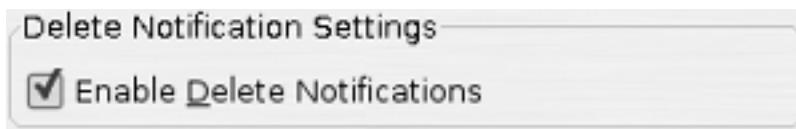

Figure 11.8. Delete Notification Settings
2. Under the "Delete Notification Settings" section unckeck the checkbox labeled "Enable Delete Notifications" see Figure 11.8, "Delete Notification Settings".